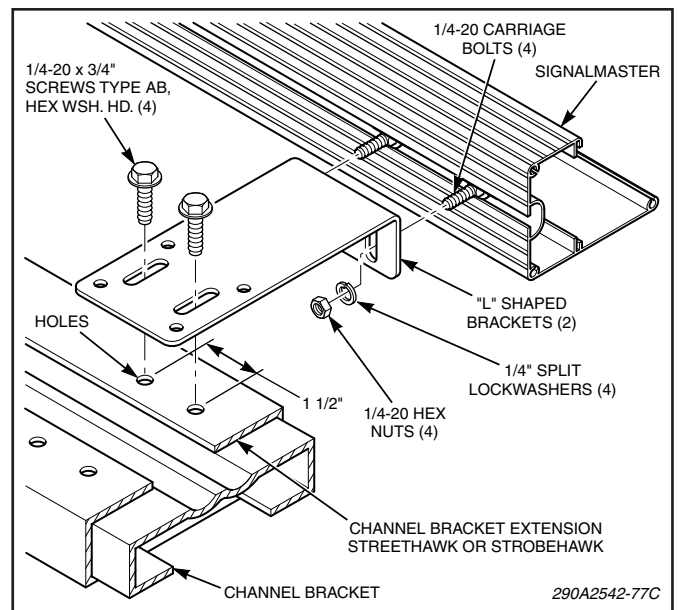

Figure 3.
a. See figure 3. Assemble the L-shaped brackets to the light assembly using the four 1/4-20 hex nuts and 1/4" split lockwashers. **Do not tighten the nuts at this time.**
c. See Figure 3. Determine the SignalMaster's mounting location by locating the appropriate pre-drilled holes in the steel channel bracket of the lightbar.
d. Secure the assembly to the lightbar using four 1/4" x 3/4" hex head type AB screws as shown in figure 3.